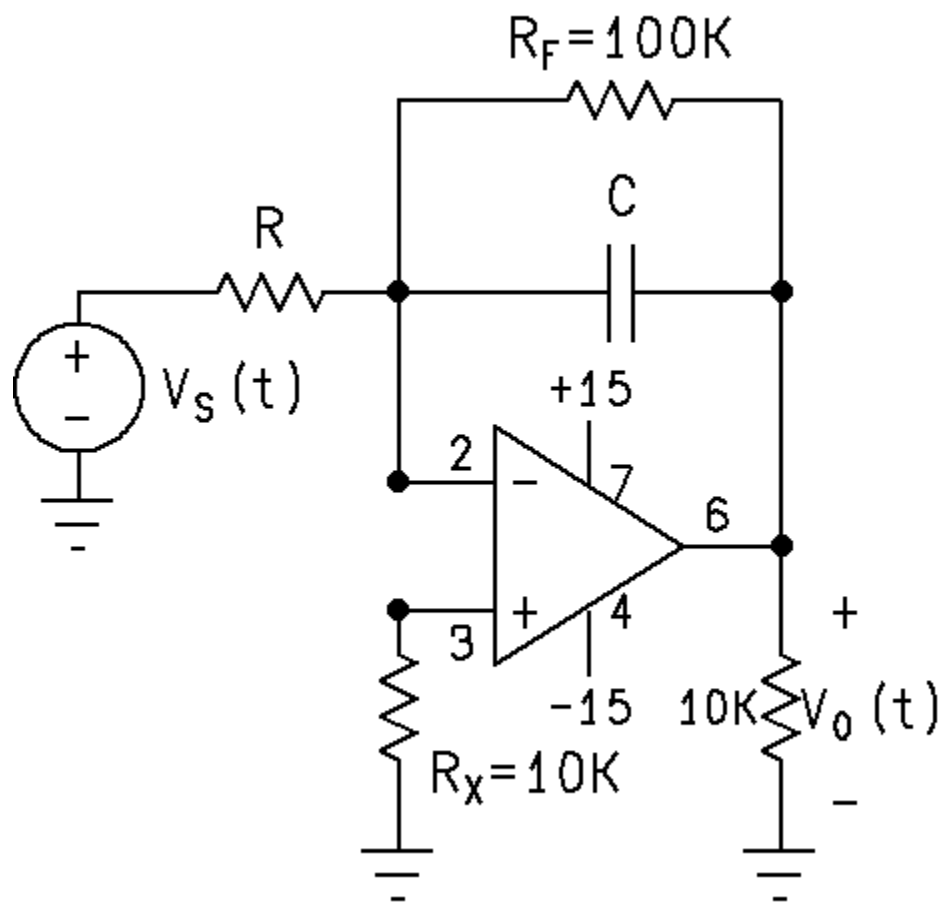

Figure 5.
Set up the circuit in Figure 5 with the scope set to display $V_S(t)$ and $V_O(t)$ on CH1 and CH2. Your instructor will assign values for R and C . Set $V_{S1} = 4\cos(10000\pi t)$ volts. Be sure that the DC offset is set to zero. Figure out the theoretical relationship between $V_S(t)$ and $V_O(t)$ for this circuit ignoring the current through the 100K resistor, and figure out what the output should be if the input signal is (1) a sinusoid (as above); (2) a square wave; (3) a triangle wave. Then apply these signals to the circuit and check your predictions.